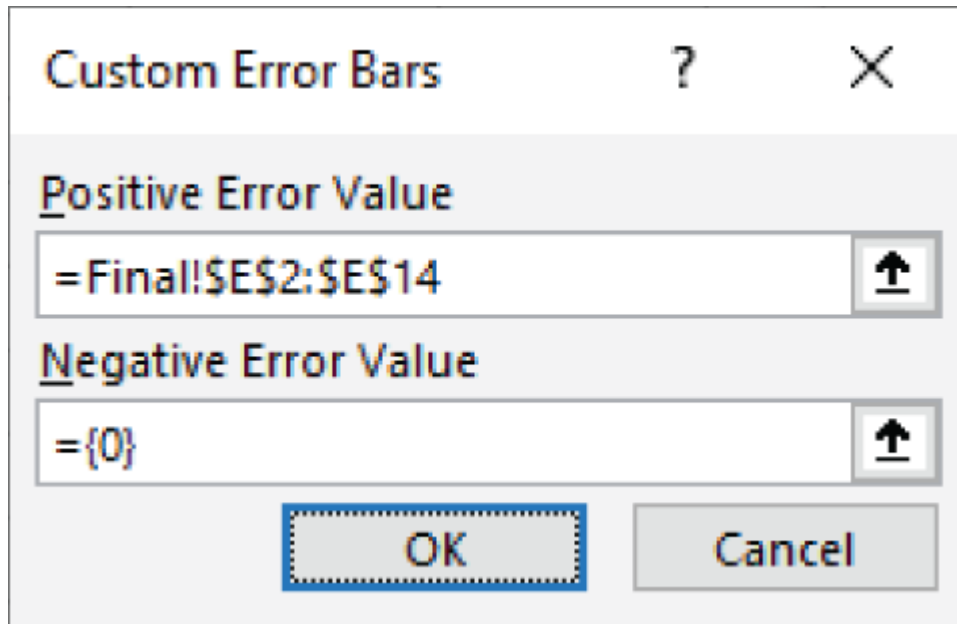

Figure 9.38: The Custom Error Bars dialog for the Prior series
8. On the Custom Error Bars dialog, set Positive Error Value to the data in column E and Negative Error Value to $=\{0\}$. Figure 9.38 shows the Custom Error Bars dialog for the Prior series.